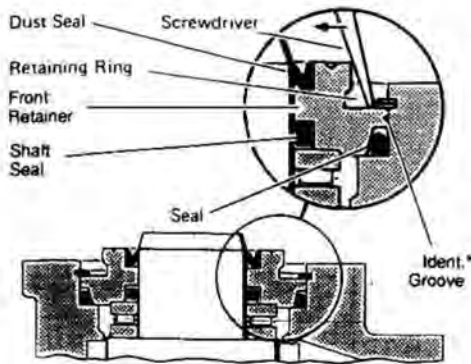

Figure 6
- 22 Install dust seal in front retainer, flate or smooth side inboard, see Fig. 6.